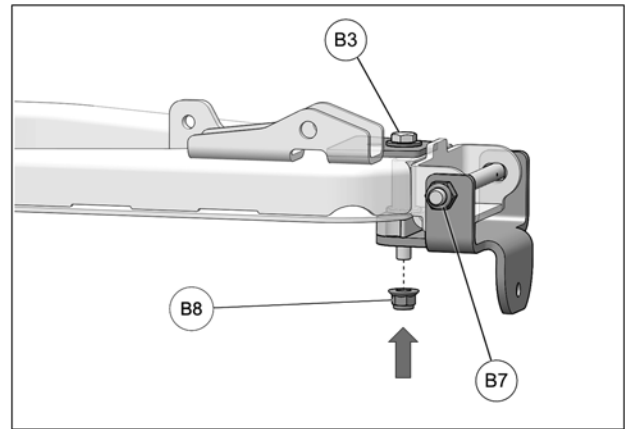

Fig. 8
8. Thread nut (B8) on bolt (B3) and tighten to 50 N•m [37 lb•ft] of torque. Finally, tighten nut (B7) to 50 N•m [37 lb•ft] as well. See Fig. 8